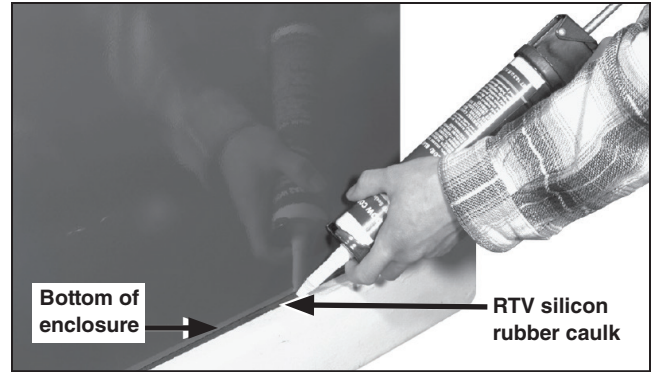

Figure 19. Caulking around the bottom of the enclosure.
- STEP 1.** Caulk around the bottom of the enclosure; a weatherproof temperature vulcanizing (RTV) silicon-rubber compound is recommended. See Figure 19.